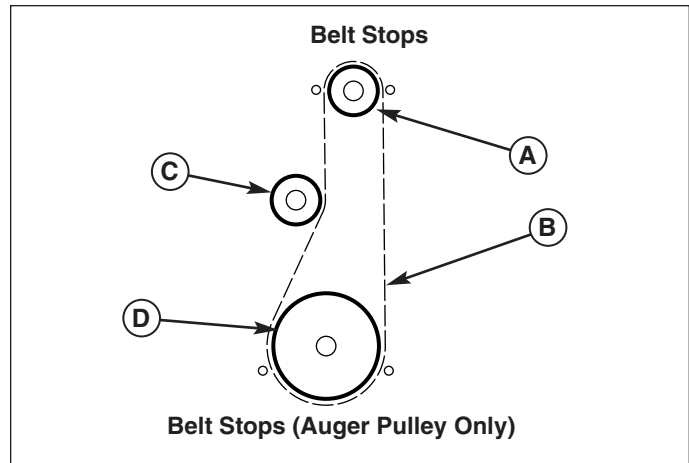

Figure 26. Belt Pattern (as viewed from front of snowthrower)
- Reverse the procedure to install the belts. Be sure there are no twists and the belts are properly seated in the grooves. Adjust the belt stops so there is 1/8" (3mm) clearance between belt and stop. The pattern for both belts is shown in Figure 26.